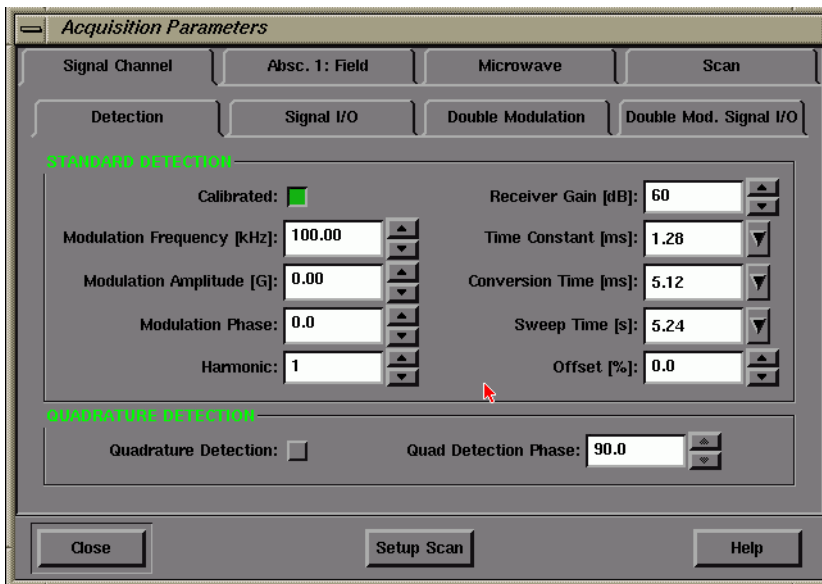

Figure 7-9 Set the Modulation Amplitude to zero.
3. **Set the modulation amplitude to zero.** Click the Signal Channel tab. Enter a value of 0.00 in the Modulation Amplitude box. (See Figure 7-9.)